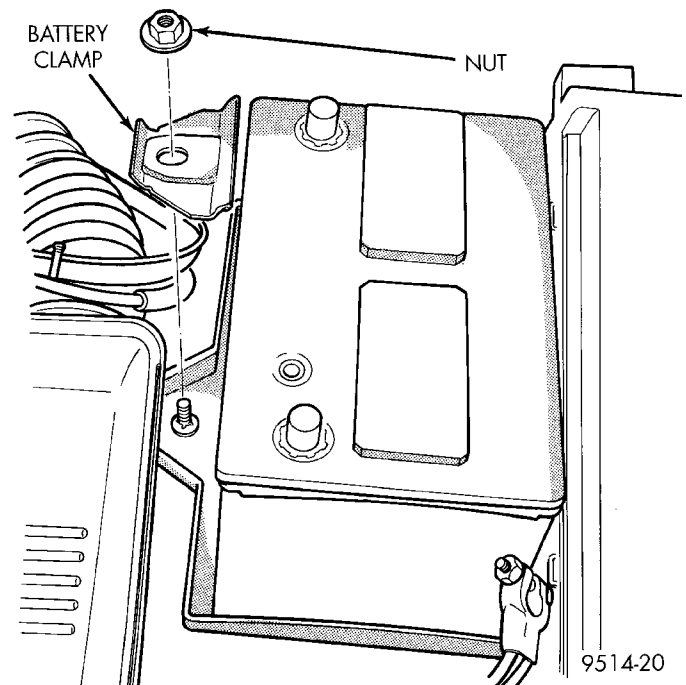

Fig. 33 Battery Clamp
- (4) Remove nut and clamp holding battery to battery tray (Fig. 33).